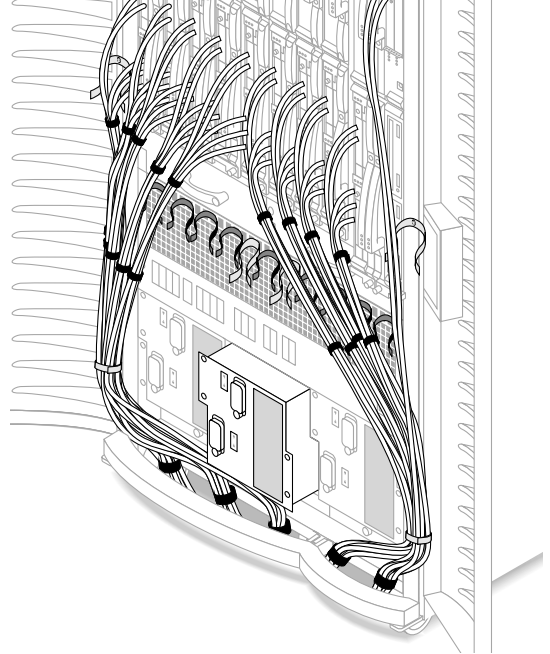

FIGURE 13 Center Power Supply Removal—Front
2. Secure the bundles with the lower green cable strap (No. 6) on the adjacent doors (FIGURE 13).